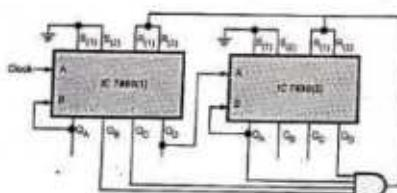

Fig. 5.12.3 Divide-by-96 counter
**Solution :** IC 7490 is a decade counter. When two such ICs are cascaded, it becomes a divide by 100 counter. To get a divide-by-96 counter, the counter is reset as soon as it becomes 1001 0110. The diagram is shown in Fig. 5.12.3.